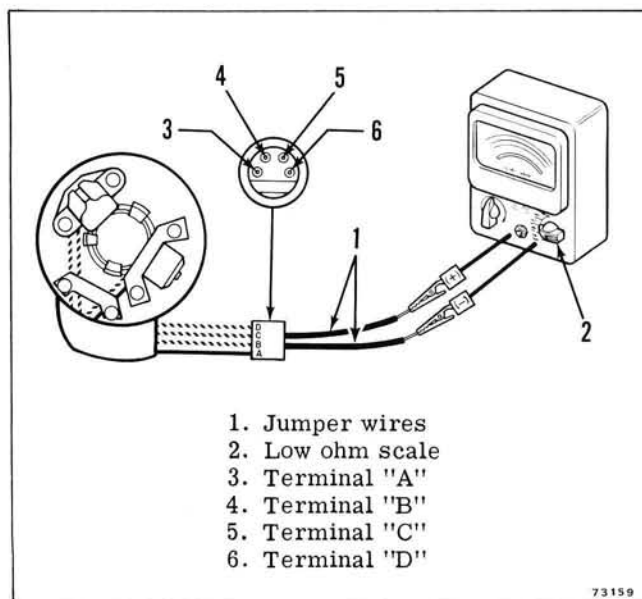

Figure 4-17. Sensor Coil Resistance
b. Insert a jumper wire to terminal "B" in the armature plate end of the connector. See Figure 4-17.
c. Insert a jumper wire to terminal "C" in the armature plate end of the connector. See Figure 4-17.
d. To test the resistance, connect an ohmmeter (calibrated on low ohm scale) between the two jumper wires. The sensor coil resistance is good if the meter indicates 40 ± 10 ohms. Replace the sensor coil if the resistance reading is not within this range. See Figure 4-17.